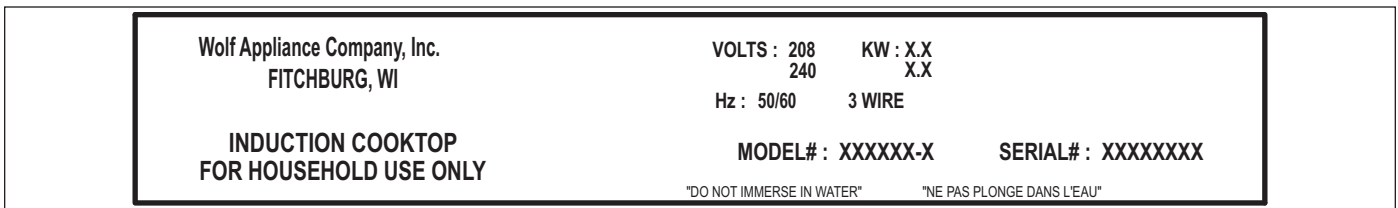

Figure 1-1. Serial Tag Layout
- See Figure 1-1 for serial tag layout.